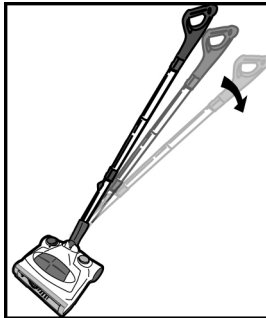

Fig. 6
3. To release the handle to a comfortable position, gently apply pressure to the top of the sweeper head with your foot while pulling back on the handle. (Fig. 6)